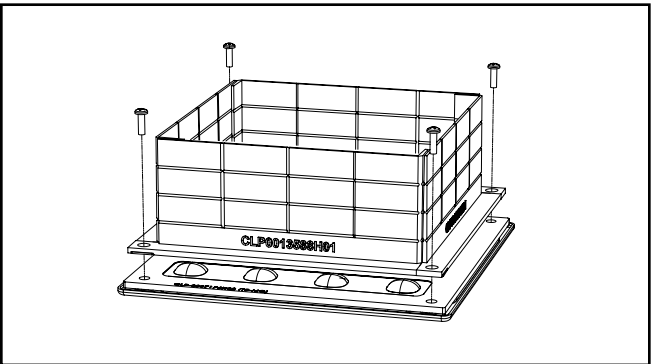

Figure 4.
- Fasten the light square and shield(s) in place with the screws provided. (FIG. 4)